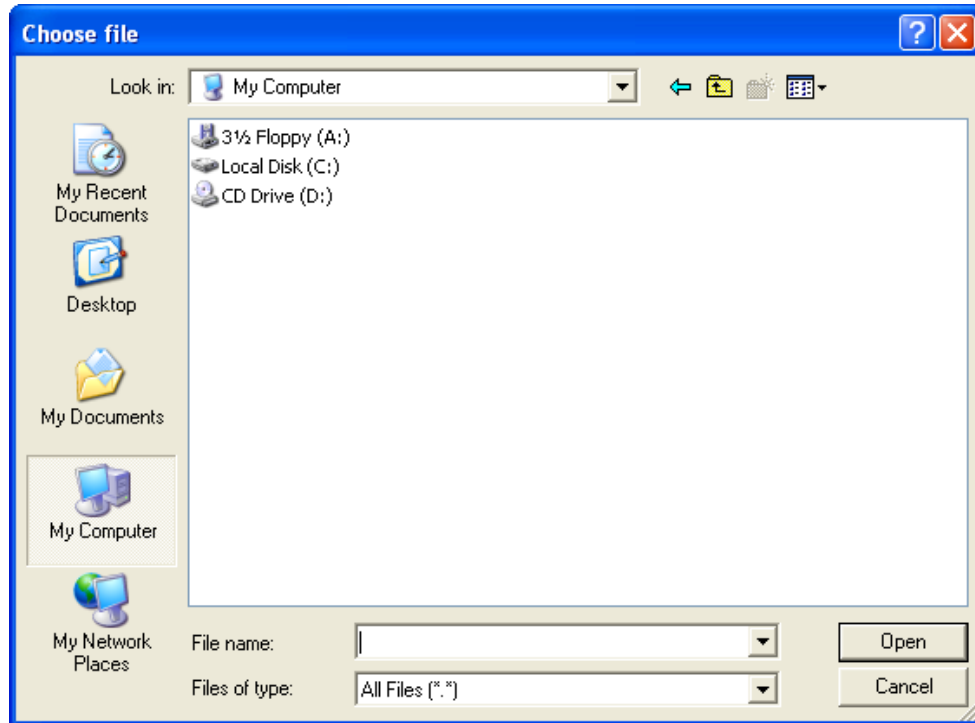

Figure 7-2: Choose File Window
4. To load the firmware file, select the *Browse* button. A *Choose File* dialogue window will appear as shown in Figure 7-2.